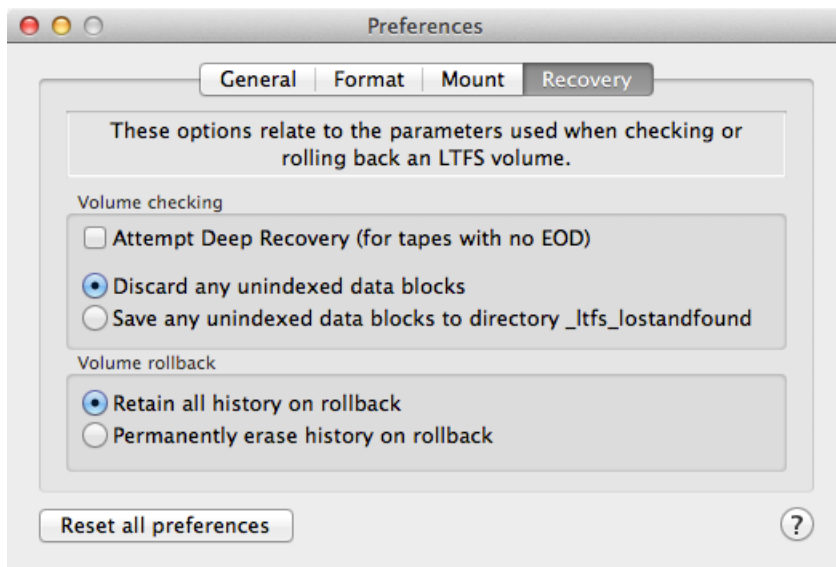

Figure 17. Mac Recovery preferences
2. Open the application Preferences pane and select the Recovery tab (figure 17).